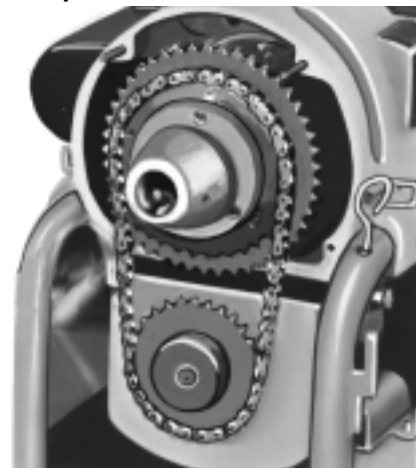

Figure 1 – Power Drive Chain on Small Sprocket
5. Set machine for high speed (normal cable operation) by shifting the **power drive chain** (*Figure 1*) to the **small sprocket**.